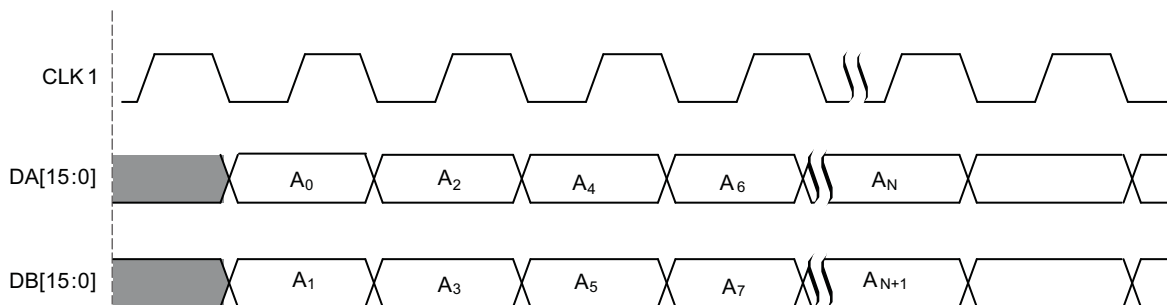

Figure 32. HALF RATE BUS MODE (Dual Clock Mode)
In HALF RATE BUS MODE, the user inputs data on both DA[15:0] and DB[15:0] ports at half rate and input logic merges both data streams into one DAC channel (A). This mode is selected by setting CONFIG1 **insel_mode[15:0]** = '11'. Refer to Figure 32.